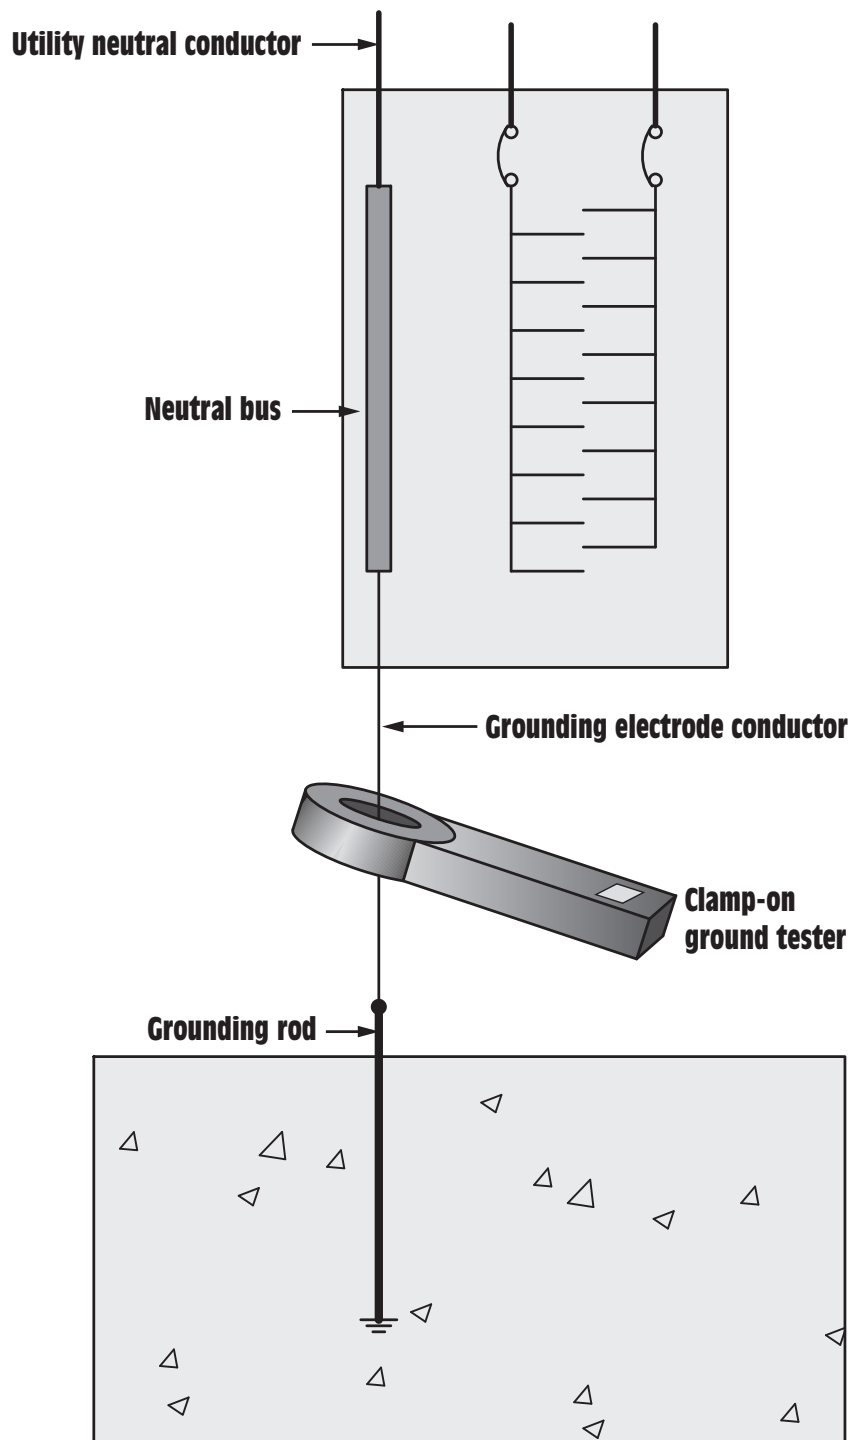

Figure 14-40 The clamp-on ground tester clamps around the grounding electrode conductor.
4. Since this test is performed by a clamp-on meter, there are no connections that have to be broken or reconnected, resulting in a safer procedure, *Figure 14-40*.